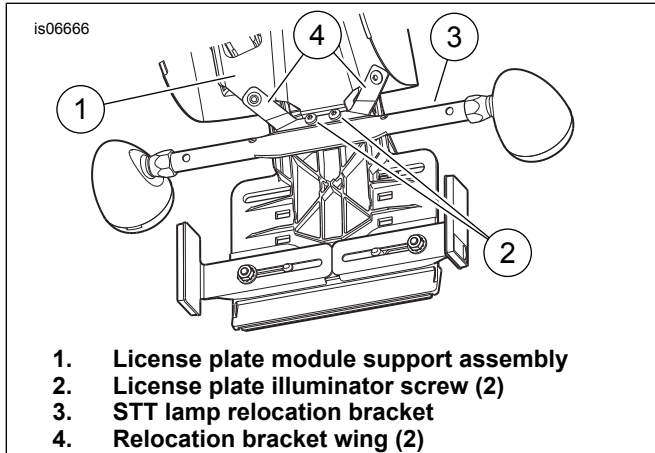

Figure 2. FXS Stop/Tail/Turn Lamp Relocation Bracket Installation
1. See Figure 2. **Loosen** the two TORX button head self-tapping screws (2) attaching the license plate illuminator to the license plate module support assembly (1).